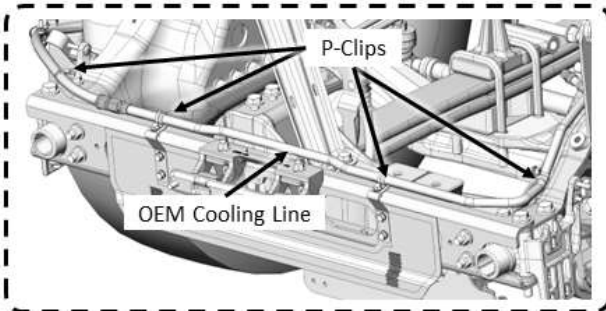

Figure 2d: OEM Cooling Line
4. Remove the OEM M18 hardware and retain for later use as shown in Figure 2c. You may need to temporarily remove or loosen the P-Clips holding the OEM Cooling Line; see Figure 2d.